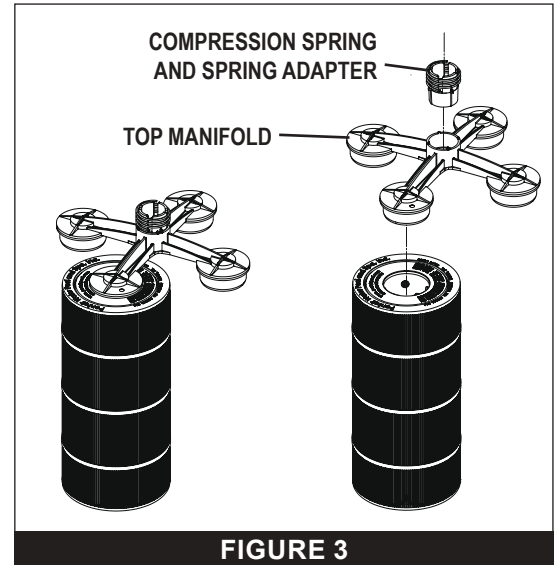

FIGURE 3
4. Remove the Top Manifold from the filter cartridges and lay the manifold aside. See **FIGURE 3**.